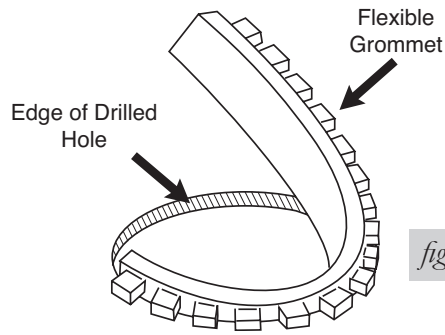

fig. 15
2. Insert the flexible grommet material (J) and walk the material around the inside edge of the hole (Fig. 15).